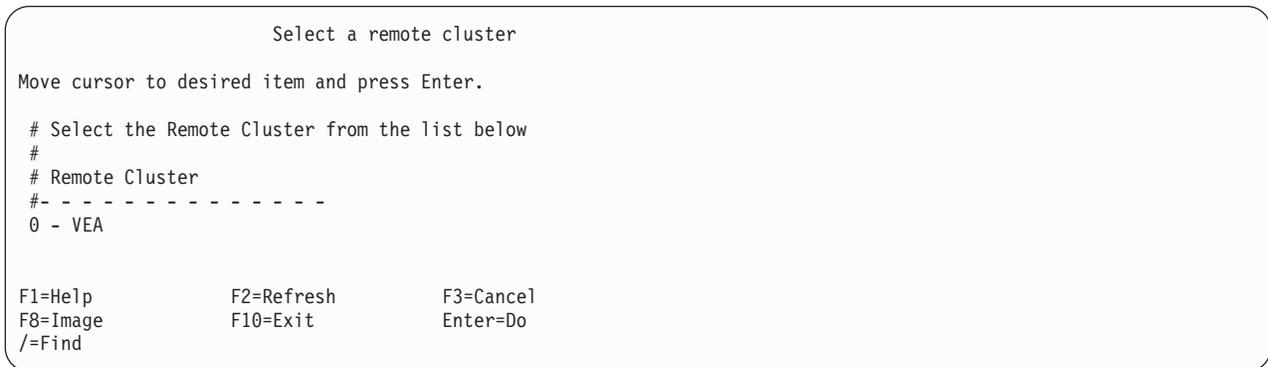

Figure 31. Initiating Remote AOTM Cluster Test. For this example, the cluster name is 'VEA.'
1. From the SMIT menu **IBM TS7700 Maintenance**, select **TS7700 GRID Menus > TS7700 GRID Configuration Menus > Autonomic Ownership Takeover Manager Menus > Test Autonomic Ownership Takeover Manager to a Remote Cluster**. Press **Enter**. You see Figure 31.